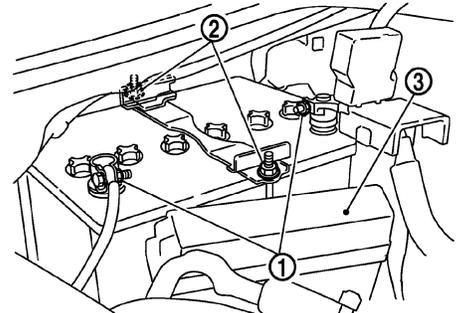

Fig. 2 Battery removal
6. Loosen battery cable clamp nuts (1), disconnect battery ground cable first, then disconnect positive cable from battery terminals, Fig. 2.
7. Remove mounting nuts (2), and remove battery hold down (3), Fig. 2.
8. Remove relay box (3) from bracket if required, Fig. 2.